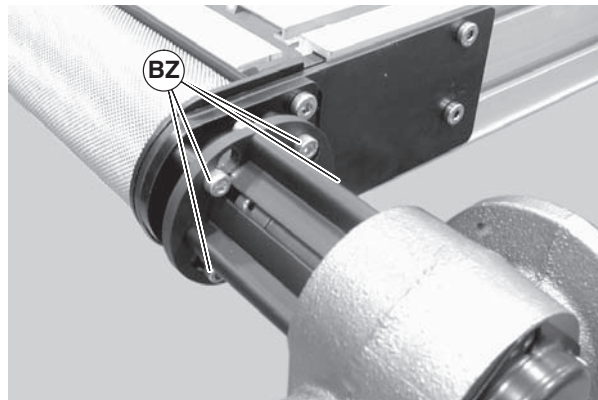

Figure 64
- b. Loosen the four (4) lock screw (Figure 64, item BZ).